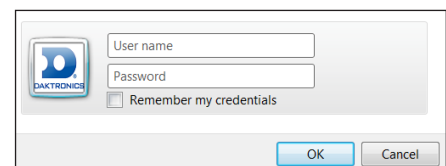

Figure 14: VIP-5000 Series Login
2. Type **Dak** into the **User name** text box. Refer to **Figure 14**.